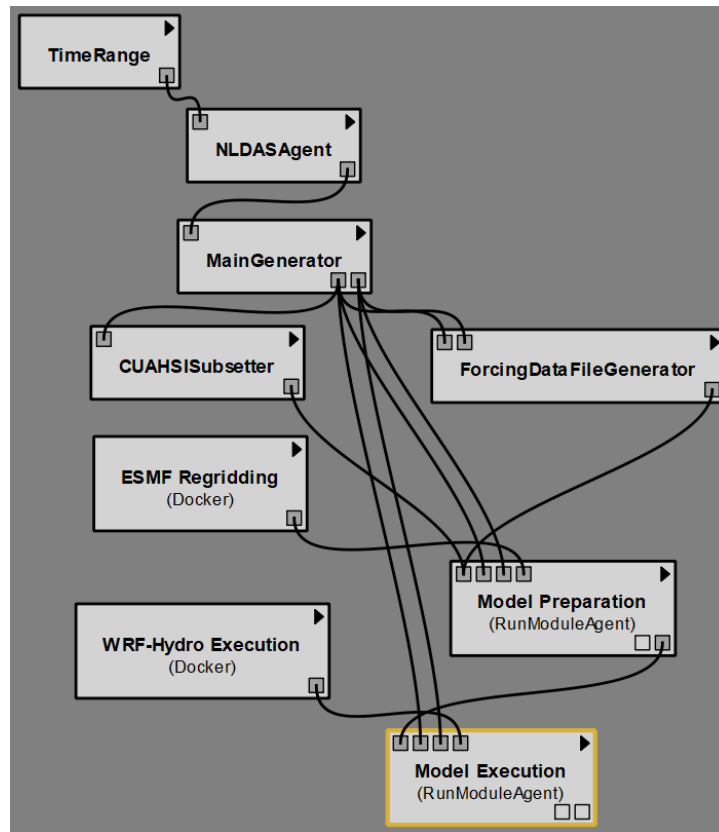

Figure 91. The workflow connecting WRF-Hydro Execution Docker module and Model Execution RunModuleAgent
15. Connect the outputs of the **Execute WRF-Hydro**, **MainGenerator**, and **Model Prep** components to the **Model Execution** component as shown in Figure 91.